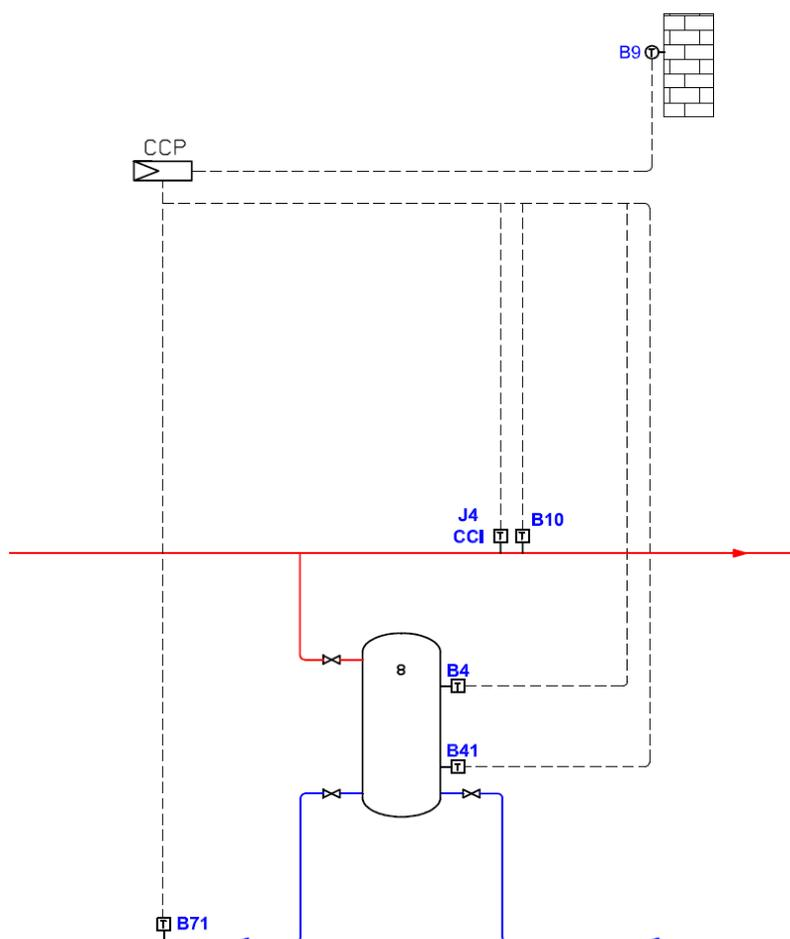

Figure 48 Basic system components
6.1.1 Base block (BP)
the base block (BP) is composed of (see Figure 48):